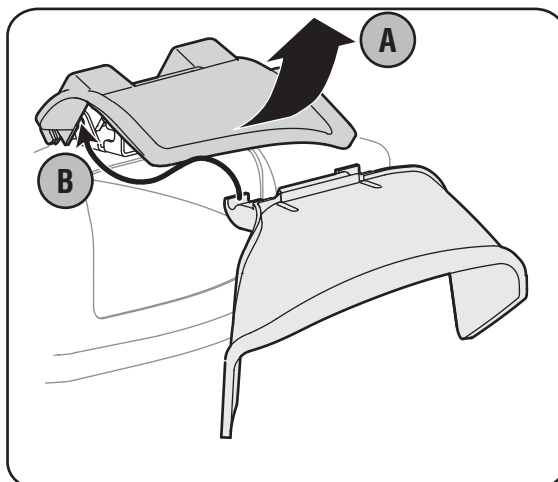

Figure 4-6
6. Your mower has been shipped as a mulcher. To discharge grass to the side, lift mulching plug. Slide the two hooks on the side discharge deflector under the hinge pin on the mulching plug assembly, see Figure 4-6. Lower the mulching plug.